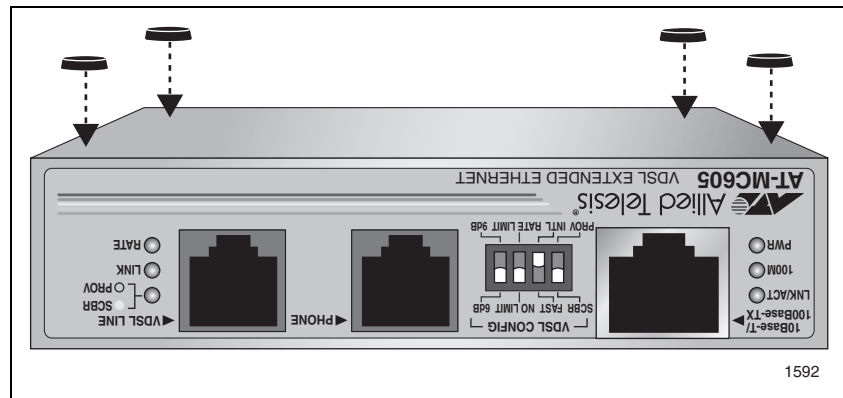

Figure 6. Attaching Protective Feet to the Subscriber Unit
2. Attach the four protective feet (provided) to each corner of the bottom of the unit, as illustrated in Figure 6 , "Attaching Protective Feet to the Subscriber Unit".